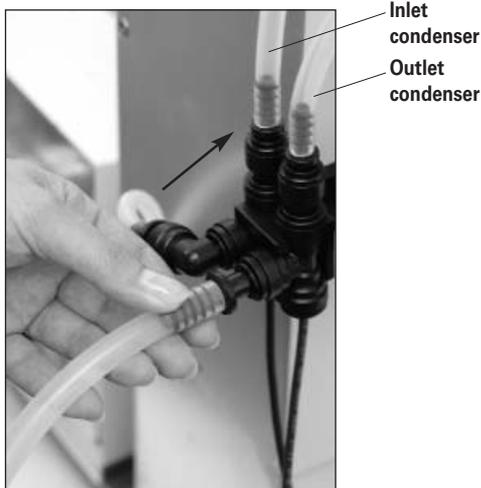

Fig. 18
- ☞ Connect the water outlet hose (supplied) by pushing it onto the nipple until the stop inside the connection socket is reached (fig. 18).